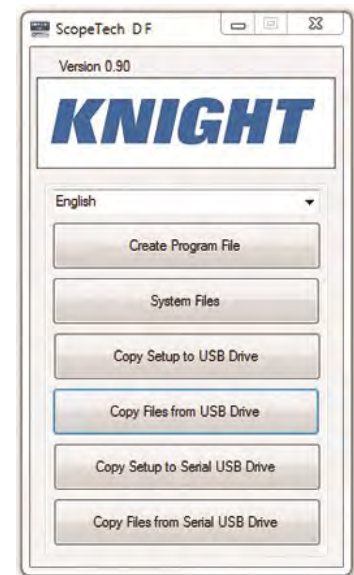

Fig. 3
6. Once the main menu appears, press Copy Files from USB Drive. See Fig. 3.